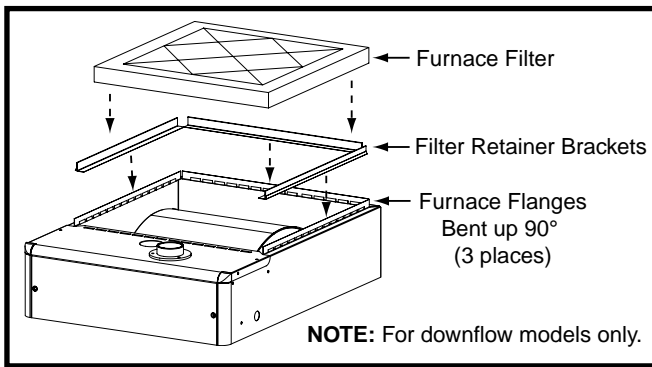

Figure 32. Filter Retainer Brackets
1. Bend the rear, right and left side furnace flanges upward 90° with a pair of wide duct pliers. See Figure 32 \(page 24\).